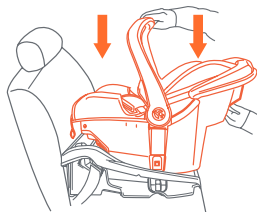

Fig. 45-1
2. Remove the Safety Seat from the base by squeezing the base release handle located under the center of the head end of the Safety Seat and lifting upward on the Safety Seat (See Fig. 24-1). **Store both UAS lower connectors as shown in Fig. 45-1.**
10. If you are using the Base, check that nothing is on top of the base, or anything that will interfere with the proper latching of the Safety Seat to the Base. Place the Safety Seat onto the Base and push down until the Safety Seat latches securely to the Base and you hear a click (Fig. 45-1).